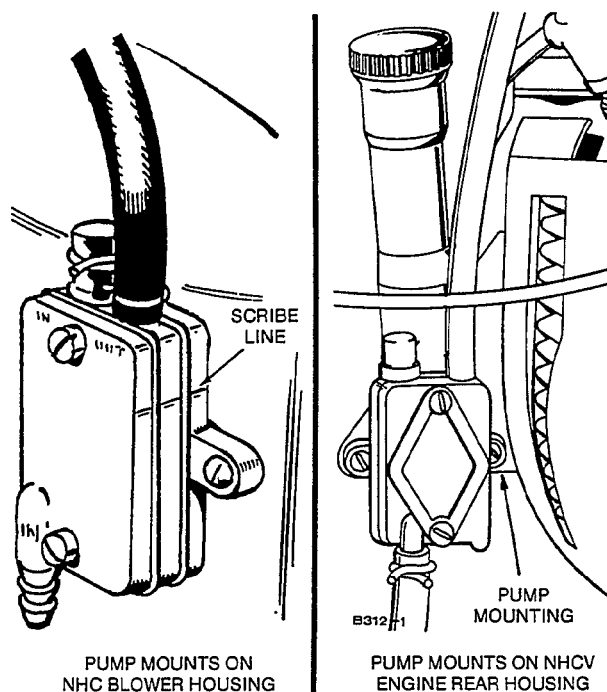

FIGURE 17. PULSE PUMP LOCATIONS
These engines are equipped with either a mechanical fuel pump, pulsating diaphragm fuel pump (pulse pump), or a remote electric fuel pump. Mechanical pumps are mounted on top of the engine crankcase, in front of the carburetor. Pulse pumps are mounted on the upper right corner of the engine blower housing on NHC engines and on the engine rear housing on NHCV engines (Figure 17).
2. To insure correct alignment when reassembling, scribe a line across the outer pump parts on each end of the pump (Figure 17).